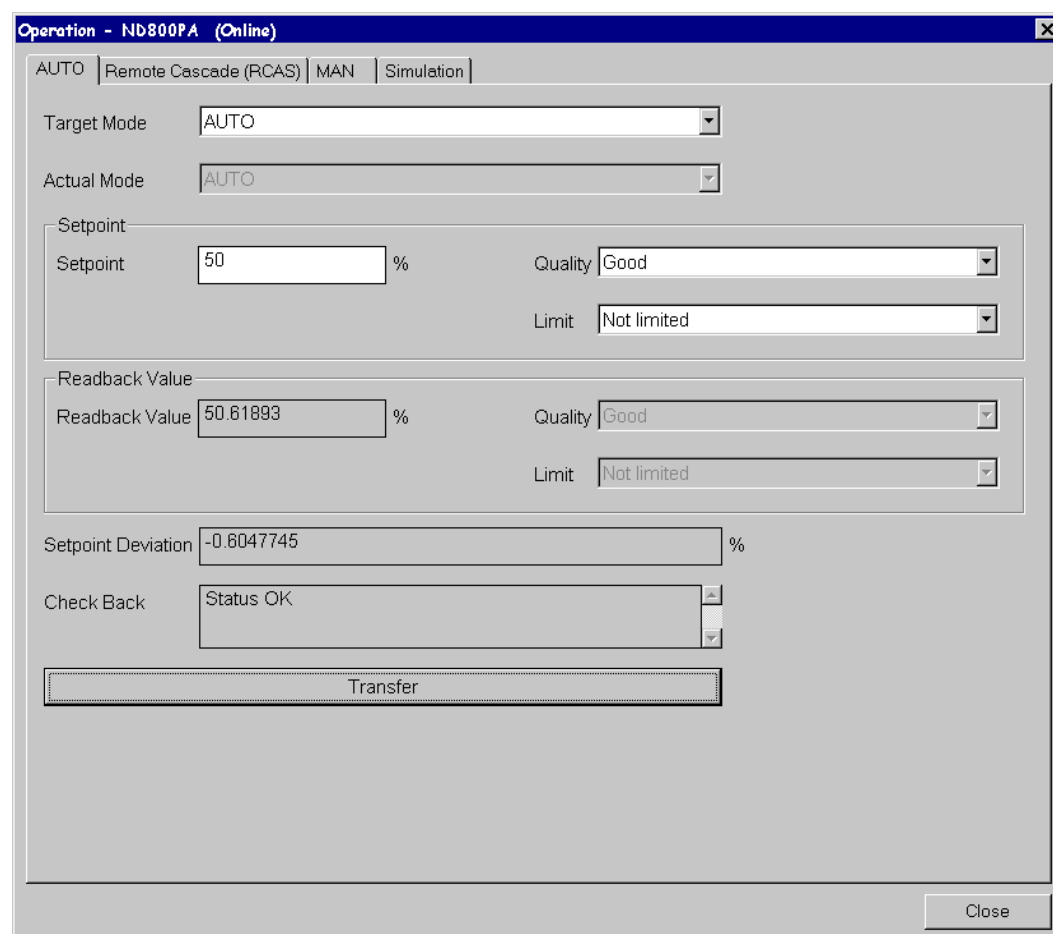

Figure 15. Operation / Auto.
The page AUTO in the operation window is presented in figure 15. From this window it is possible to change the operating mode of the device and change the value of the auto-mode valve position setpoint (SP).